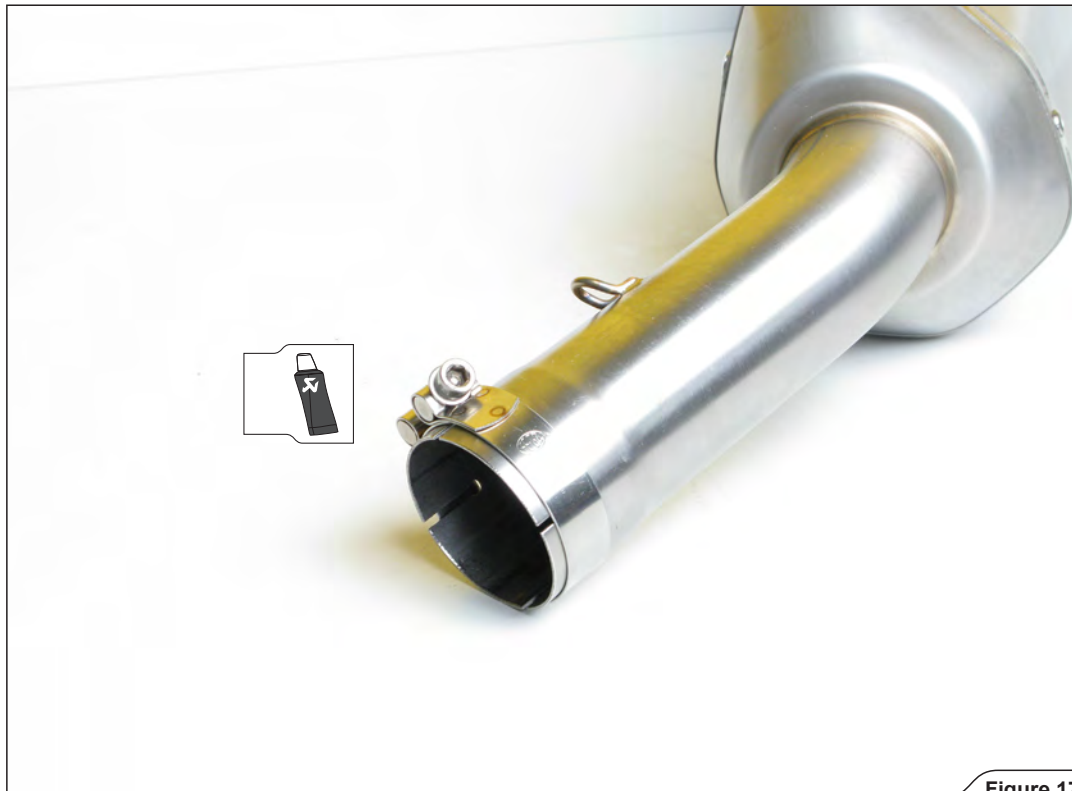

Figure 17
9. Correctly instal Akrapovič metal clamp onto the muffler inlet as shown (Figure 17).